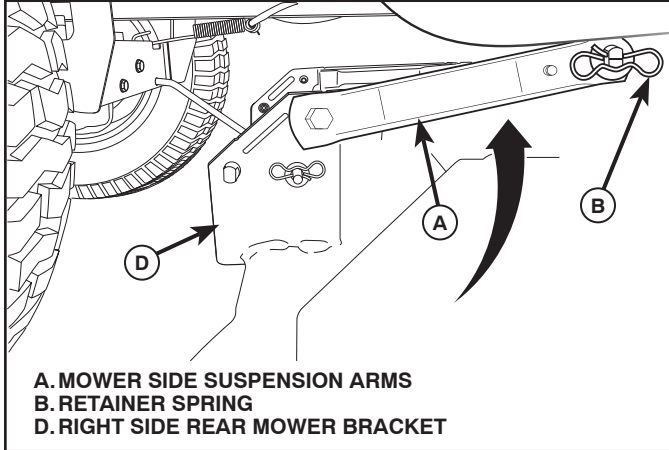

Fig. 28
6. ATTACH MOWER SIDE SUSPENSION ARMS (A) TO CHASSIS (See Fig. 28)
- Position front hole in side suspension arm (A) over pin on outside of tractor chassis and secure with large washer and large retainer spring (B).